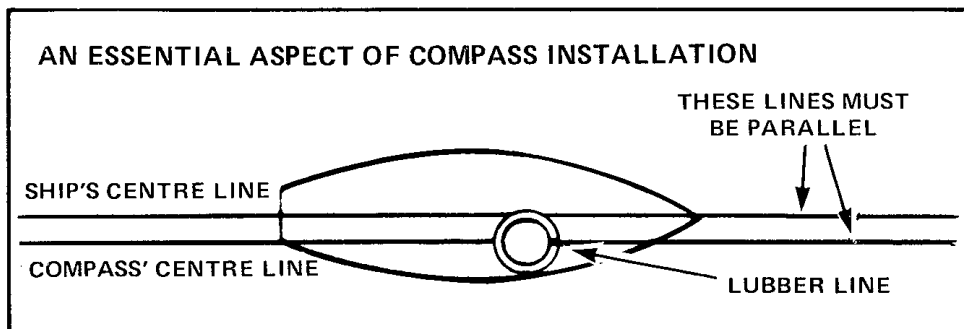

Figure 7-5 An Essential Aspect of Compass Installation
19. **Mounting a Compass** — The correct mounting of a compass (Figure 7-5) requires that a line drawn through the axis of the compass, through the lubber line and the pivot, be parallel to the fore-and-aft axis of the vessel. If this condition is not met the lubber line will not indicate the direction of the ship's head. A reasonably precise job of installation involves establishing the line of the ship's keel (for-and-aft axis) on deck, probably using cord or wire, doing the same thing for the compass axis, and by measurement making the lines parallel. A cruder method, which disregards difficulties to be discussed later, is to head the small boat directly for an object whose direction is known from the chart and mount the compass to read that heading. It should not be surprising to learn that in most small boats the compass is mounted simply by being screwed to the bulkhead with no further fuss and probably with accuracy adequate for the purpose. It is necessary to observe, however, that crude methods of installation, and cheap compasses are completely inadequate when accurate piloting or navigation is required.